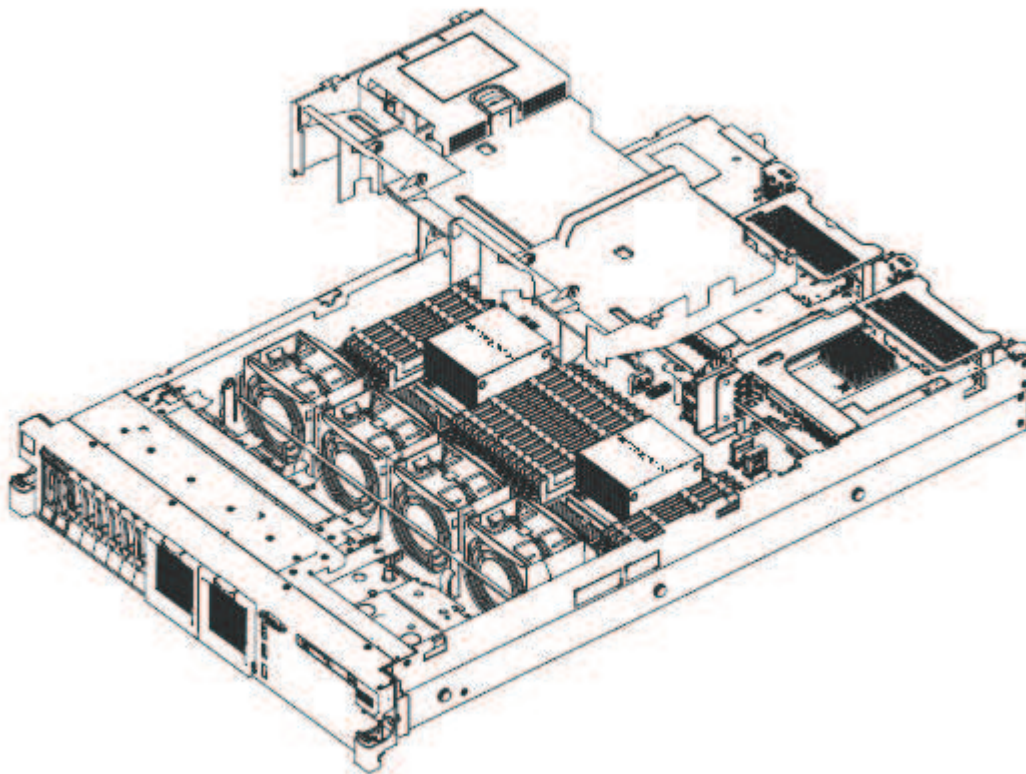

Figure 83. Removing the air baffle
2. Place your fingers under the front and back of the top of the air baffle; then, lift the air baffle out of the server, as shown in Figure 83.